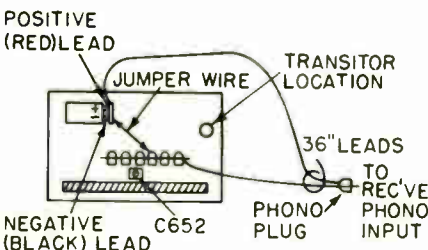

Fig. 1 Test Connections on transmitter.
2. Remove the bottom half of the remote transmitter case, then connect a short jumper lead and phono input harness to the transmitter and television receiver as shown in Figure 1. Turn the volume control of the television to full volume.